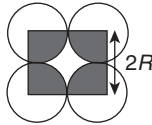

Figure 13 Packing in sc.
1. **For a simple cubic (sc) structure:** For such an arrangement, the unit cell edge is  $a = 2R$ , since two spheres just touch each other along the edge as shown in Figure 13: